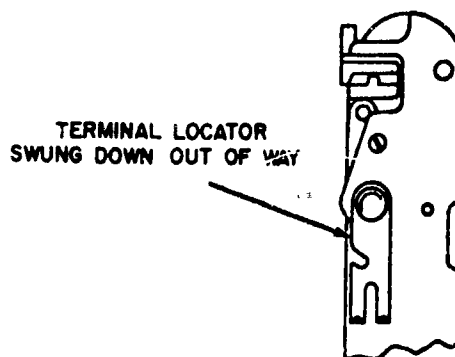

Figure 5.
d. Turn the locator stop down and out of the way (figure 5).